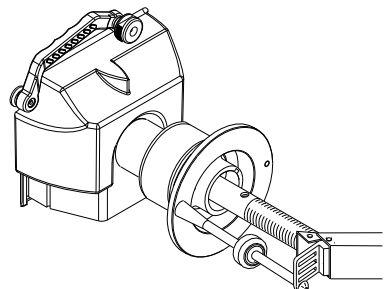

Figure 49
13. Display will then change to "**tO**" "**CAL**" "**SLG**". Screw the calibration weight onto the outside of the flange. Touch the tip of the width gauge to the tip of the calibration slug and hold it for one second or press the "**F**" button (Figure 49). The display will change to "**SAP**" "**E-2**" "**FIN**" for one second followed by a tone indicating a successful calibration. Unit will then go into an idle state.